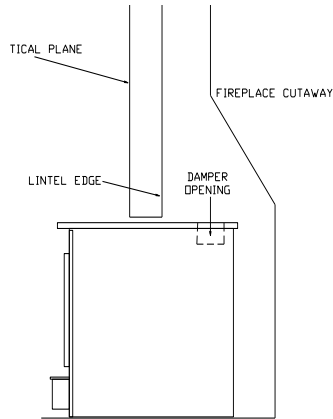

FIGURE 2 POSITIONING
When positioning heater, the following conditions **MUST** be met! (See Figure 2).
1. The front of damper opening must be positioned **BEHIND** back edge of the lintel to ensure proper draft. (See Figure 2).
After unit is positioned as shown in (Figure 2), mark mounting position of trim panels as follows: